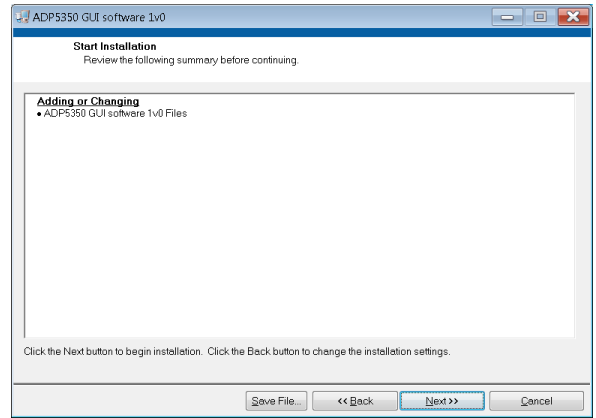

Figure 5. Select Program Folder
3. Click **Next** to install the program (see Figure 5).